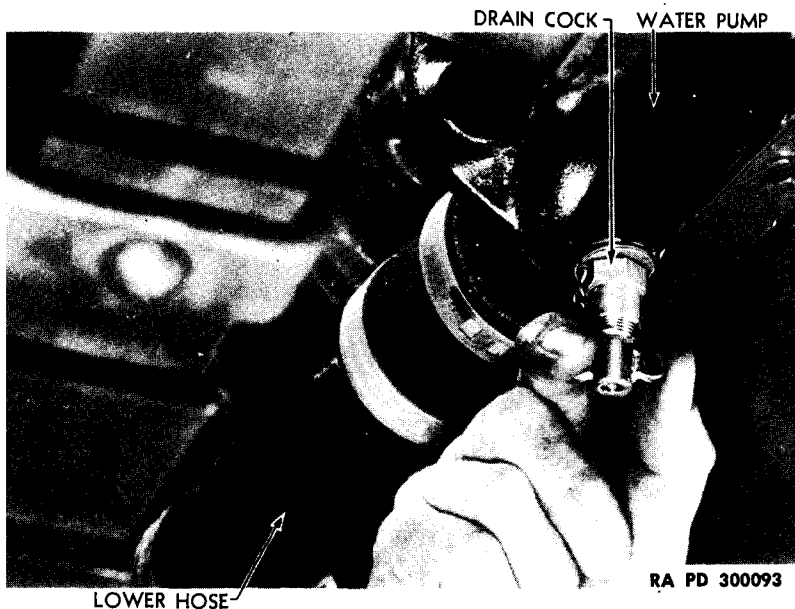
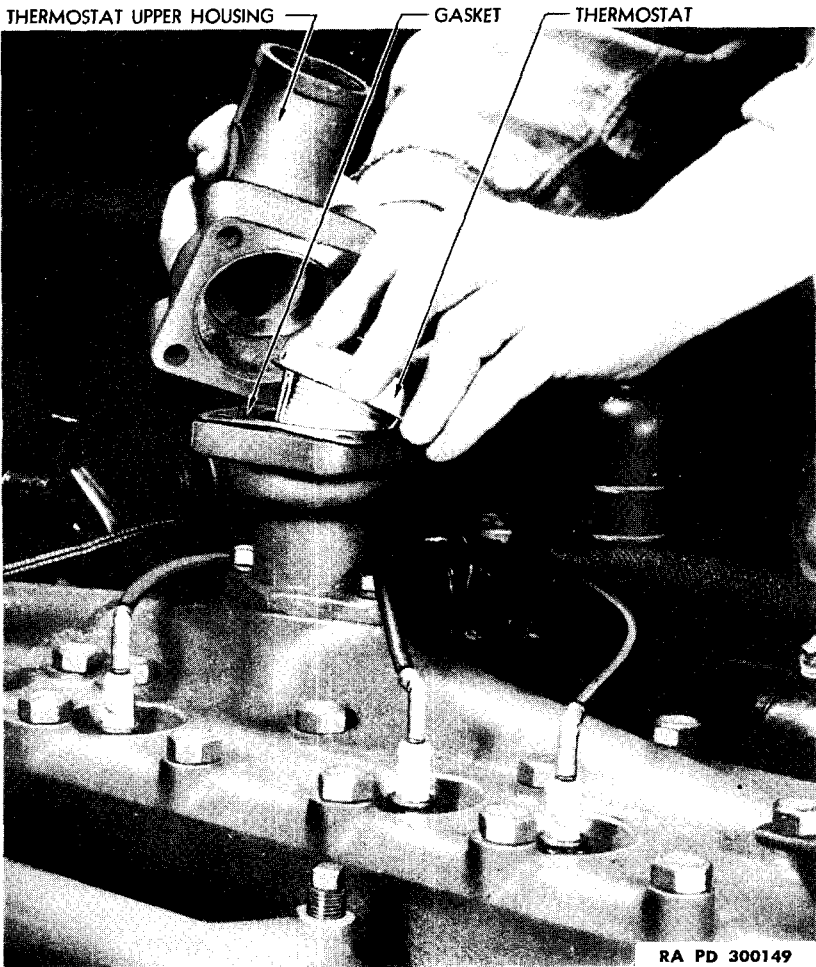

Figure 50—Draining Cooling System
Figure 58—Removing Thermostat
(1) **DRAIN COOLING SYSTEM.** Open drain cock at bottom of water pump (fig. 50).
b. **Remove Thermostat.** Drain approximately four quarts coolant from cooling system (fig. 50). Disconnect engine water outlet hose at thermostat housing. Disconnect engine water bypass tube hose at thermostat housing. Remove four cap screws from thermostat upper housing. Swing air cleaner support brace to one side. Lift thermostat out of housing. Note relative position of thermostat in housing, to avoid installing upside down (fig. 58).
d. **Install Thermostat.** Place thermostat in housing in proper position (fig. 58). Place upper housing in position on cylinder head water outlet and install and tighten four cap screws. Secure air cleaner brace in air cleaner bowl. Connect outlet hose and engine bypass tube hose to thermostat housing. Tighten hose clamps securely. Refill system with water or antifreeze compound; start engine and inspect all connections for leaks.